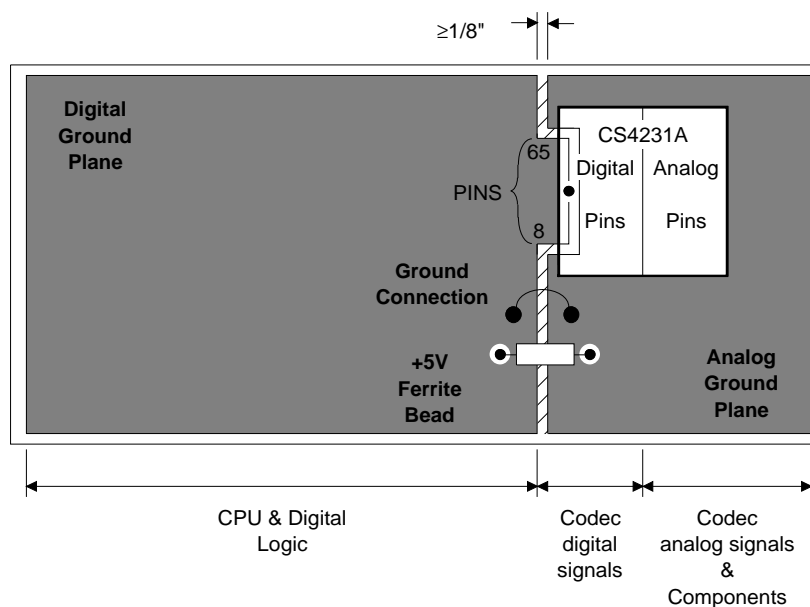
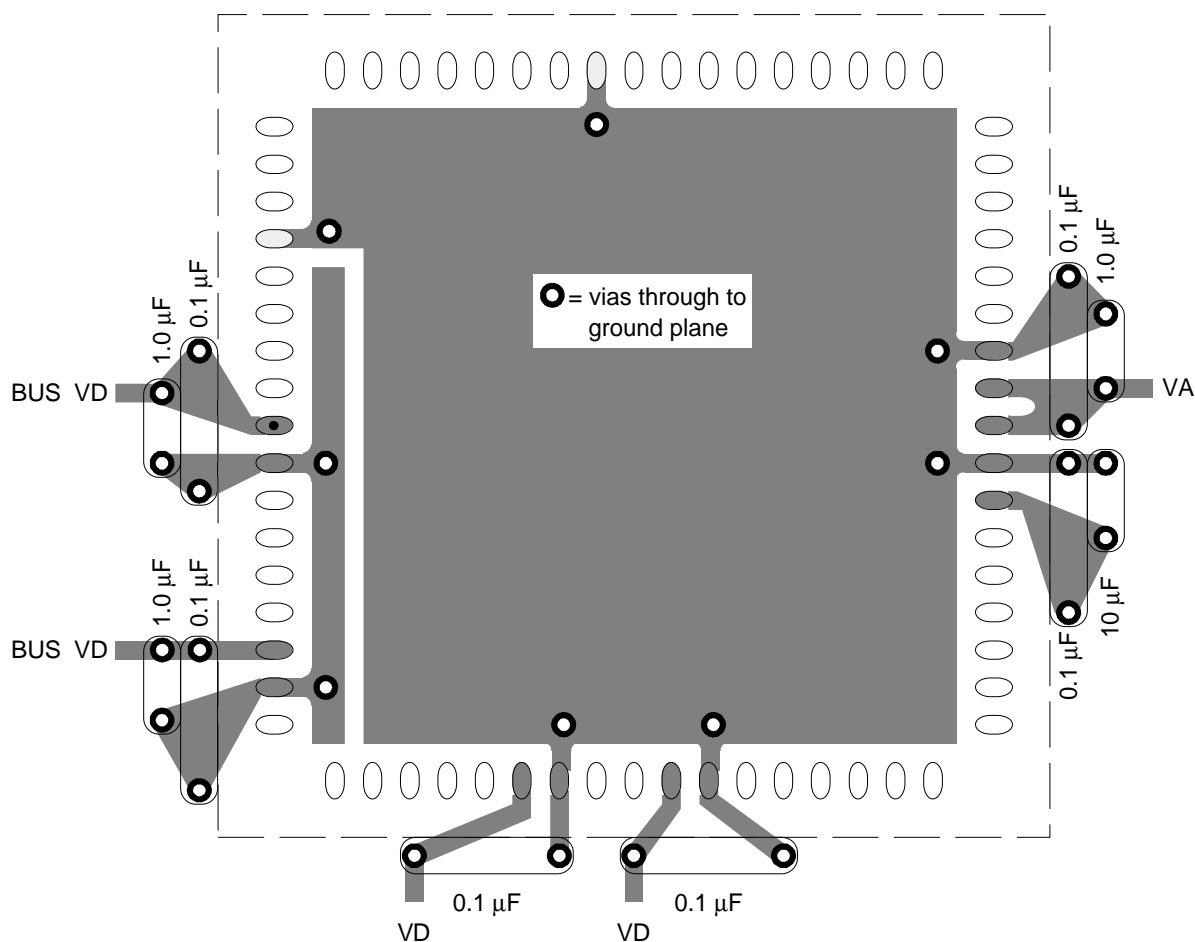

Figure 16. Suggested Layout Guideline
Figure 17. Recommended Decoupling Capacitor Positions
Figure 16 is a suggested layout for the CS4231A. Similar to other Crystal codecs, it is recommended that the device be located on a separate analog ground plane. With the CS4231A's parallel data interface, however, optimum performance is achieved by extending the digital ground plane across pins 65 through 68 and pins 1 through 8. Pins 2 and 8 are grounds for the data bus and should be electrically connected to the digital ground plane which will minimize the effects of the bus interface due to transient currents during bus switching. Figure 17 shows the recommended positioning of the decoupling capacitors. The capacitors must be on the same layer as, and close to, the CS4231A. The vias shown go through to the ground plane layer. Vias, power supply traces, and VREF traces should be as large as possible to minimize the impedance.
3. Although optimum performance is achieved using the ground plane shown in Figure 16, any ground plane scheme that achieves acceptable performance with the AD1848 should work with the CS4231A.